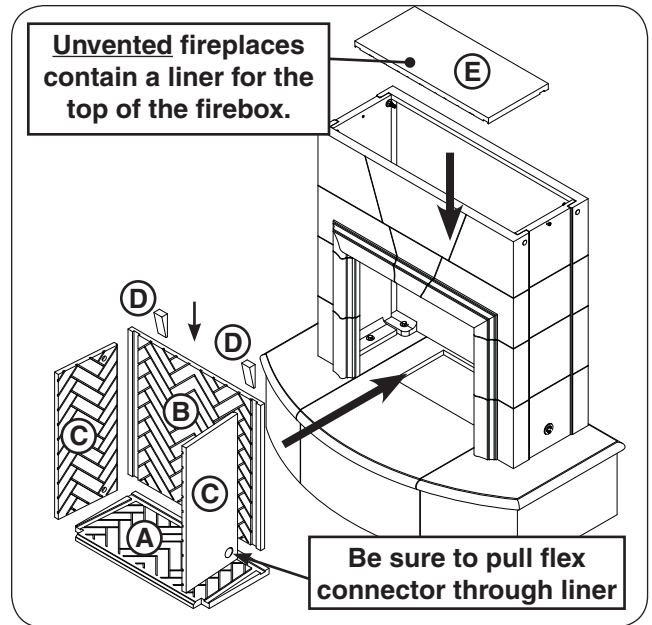

Fig. 21-1 Install firebox liners
1. Install the firebox liners into the interior of the firebox in the order shown in Fig. 21-1.